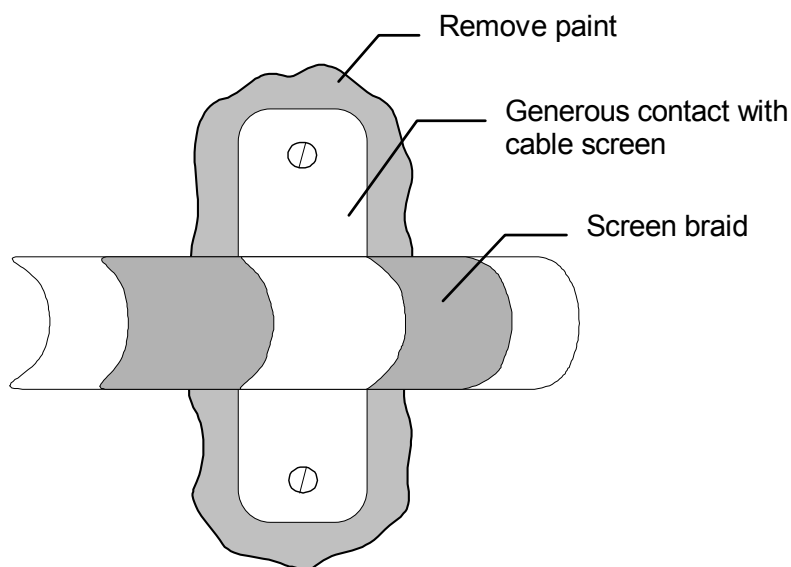

Fig. 4.3-2 Contacting, cable screen
- We recommend a connection on the bare metal mounting point using earth clamps. (See Fig. 4.3-2 Contacting, cable screen)
- We recommend a connection on the bare metal mounting point using earth clamps (see Fig. 4.3-2 Contacting, cable screen)